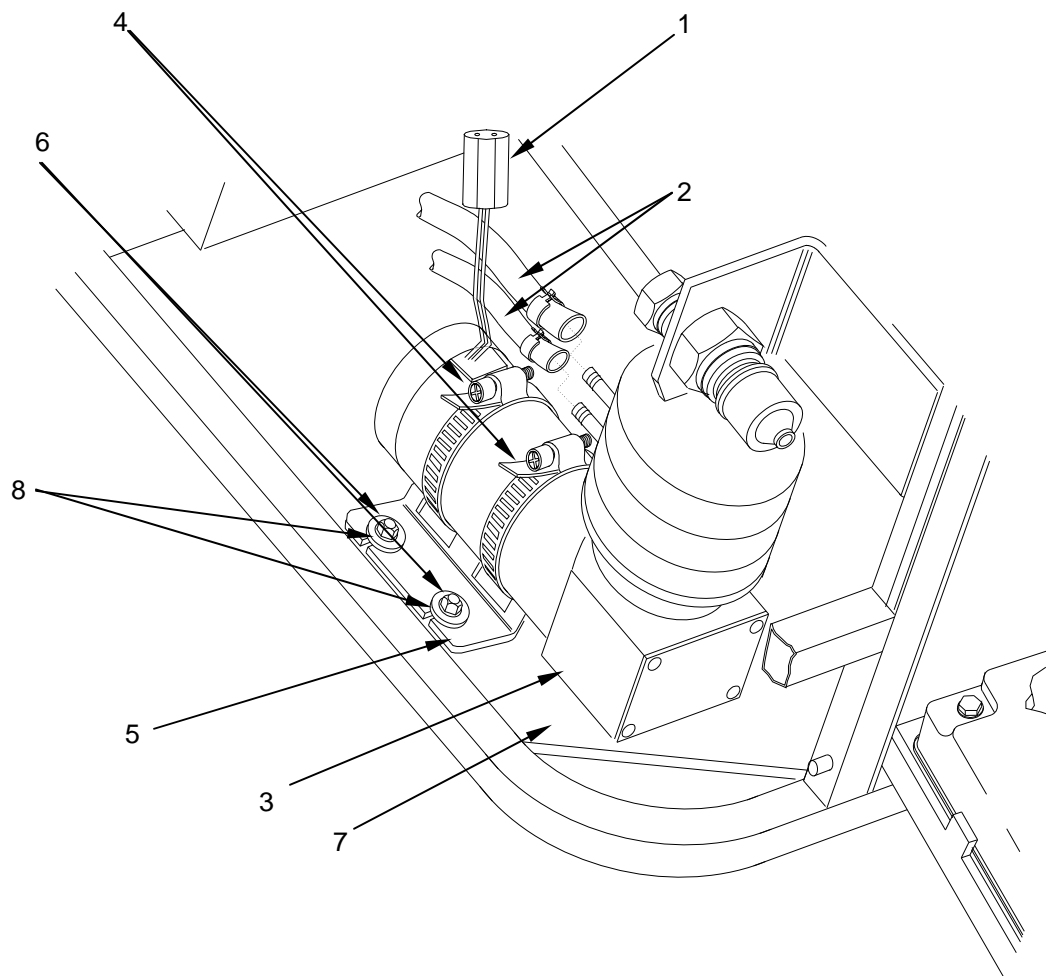

Figure 3. Replace the Compressor Assembly.
2. Disconnect compressor power wire harness connector (Figure 3, Item 1).
3. Disconnect air lines (Figure 3, Item 2) from compressor (Figure 3, Item 3) by compressing the spring clips with a pair of pliers.
4. Loosen and remove two hose clamps (Figure 3, Item 4) and lift compressor (Figure 3, Item 3) off the mounting plate (Figure 3, Item 5).
5. To replace the compressor mounting plate (Figure 3, Item 5), remove four self locking nuts and washers (Figure 3, Item 6) securing the mounting plate to the threaded studs mounted to the MBU base plate (Figure 3, Item 7).
6. Slide new vibration grommets (Figure 3, Item 8) onto mounting plate (Figure 3, Item 5), insert spacers, and secure assembly with four self locking nuts and washers (Figure 3, Item 6) to the threaded studs mounted to the MBU base plate (Figure 3, Item 7).
8. Place new compressor onto mounting plate (Figure 3, Item 5) and secure with two hose clamps (Figure 3, Item 4). Connect air lines (Figure 3, Item 2) previously removed. Note that the $\frac{3}{8}$ -inch ID hose installs on the larger fitting.
9. Connect compressor power wire harness connector (Figure 3, Item 1).